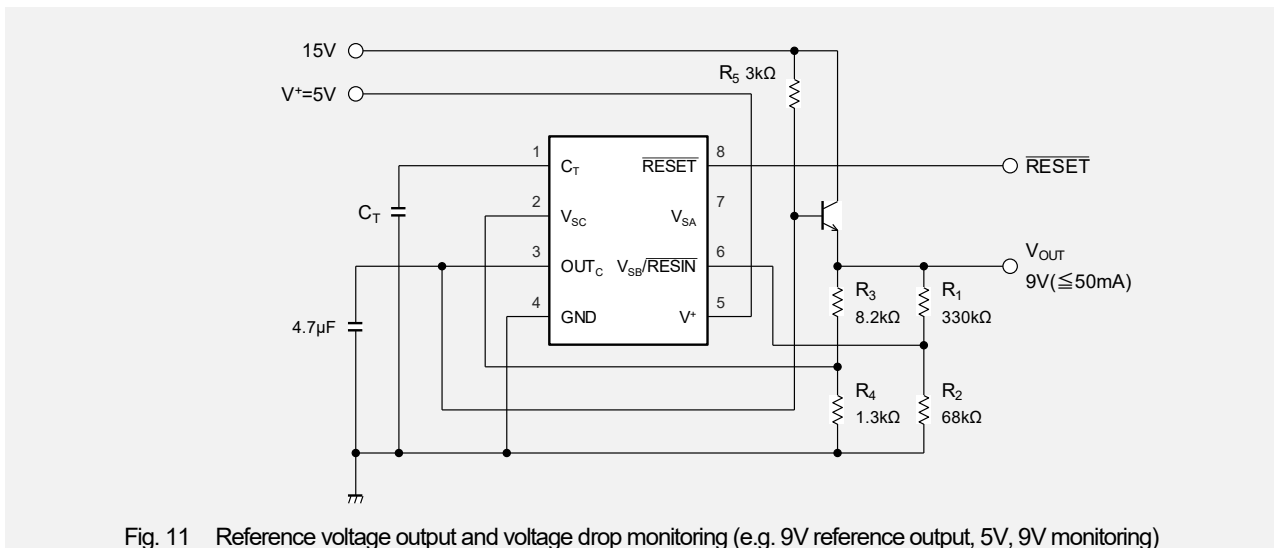

Fig. 11 Reference voltage output and voltage drop monitoring (e.g. 9V reference output, 5V, 9V monitoring)
- The reference voltage VOUT and its detection voltage are calculated as the following formula. In case of resistor value In Fig.11, the reference voltage VOUT is about 9.0V, the detection voltage (VOUT falling) is about 7.1V and the detection voltage (VOUT rising) is about 7.3V